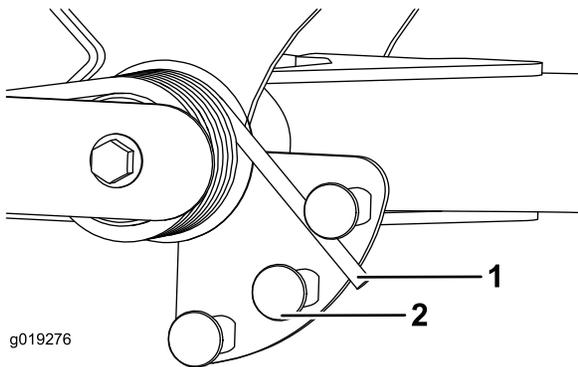

Figure 34
- Insert a tube or similar object onto the long spring end and pivot it around the spring actuator to the desired position (Figure 34).